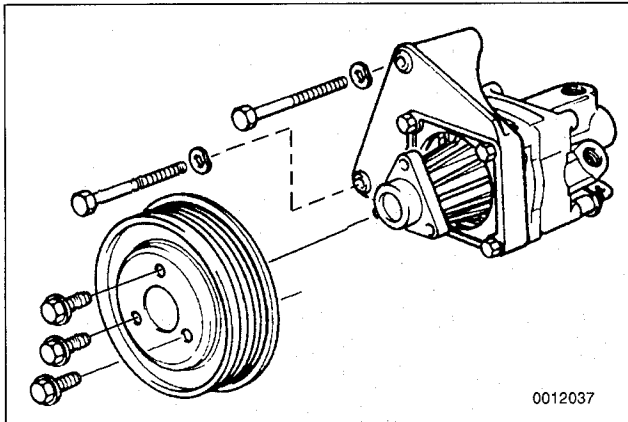

Fig. 3. Power steering pump and pulley mounting bolts.
- Remove pump mounting bolts and remove pump. See Fig. 3.